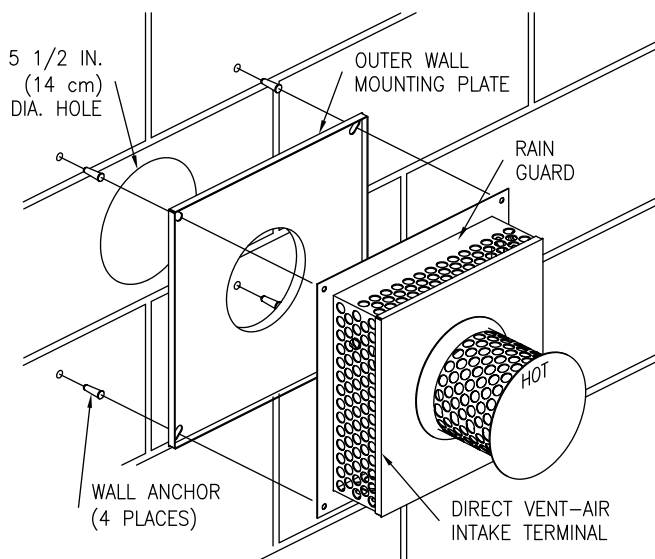

Figure 4
3. Cut a 5-1/2 inch (14 cm) diameter minimum clearance hole in the wall at the point where the vent-air intake tubes will pass through the outside wall and connect with the direct vent-air intake terminal (See Figure 4).
4. From outside the building, position the outer wall mount plate and direct vent-air intake terminal over the center of the opening. Mark the mounting screw hole locations. With a 3/16 inch (4.5 mm) diameter drill bit (not supplied), drill holes for the wall anchors (supplied). Install the wall anchors but **DO NOT** affix the outer wall mount plate and direct vent-air intake terminal to the wall at this time (See Figure 4). Note: Certain construction of walls may require the use of a different type of wall anchoring means than supplied. **DO NOT** modify the direct vent-air intake terminal or outer wall mount plate.